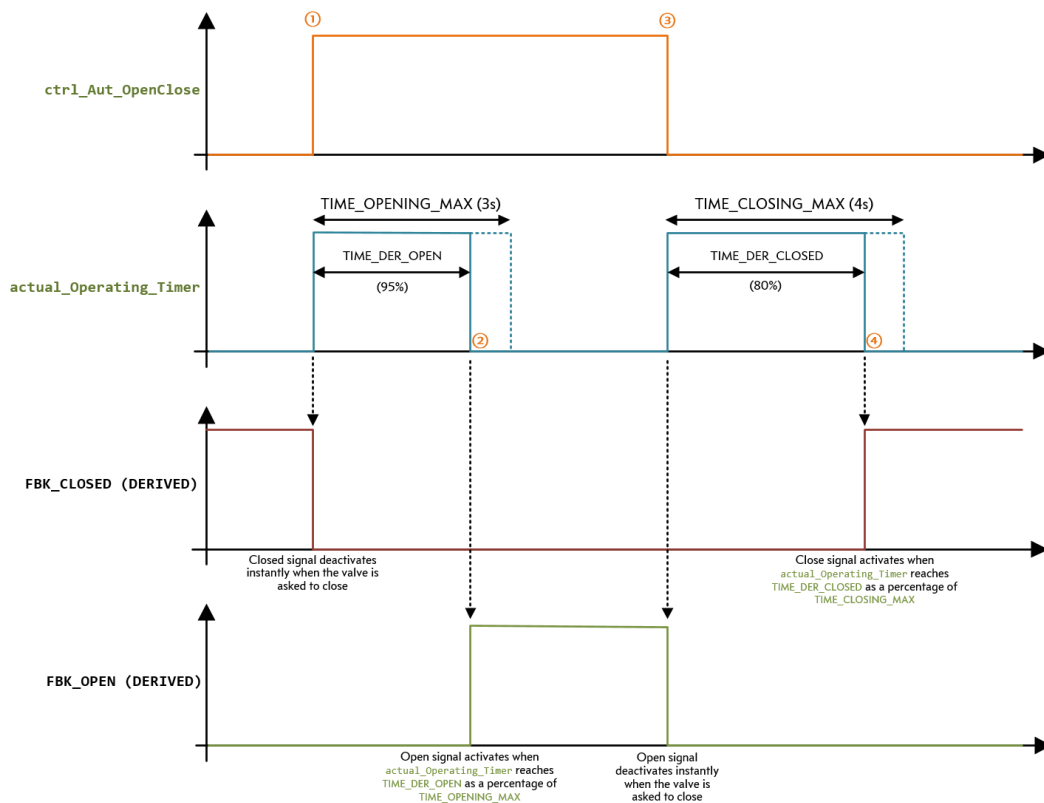

Figure 2.2 Deriving open and closed signal when positive feedback is not used
- (9) Where either the **CONFIG_FBK_OPEN_EN** or **CONFIG_FBK_CLOSED_EN** signal is deactivated (set to 0), the associated position feedback is internally determined by the module according to the actual state of the valve (determined by the **OPERATE** parameter and the type of valve in use).
- (10) These internally derived signals are themselves configurable and can be set such that the position feedback signal occurs after a particular percentage of the associated operation timer has expired.
- (11) For the derived **FBK_OPEN** signal, the configurable percentage signal is **TIME_DER_OPEN** stored within the **STATIC_DATA** parameter. Similarly, for the derived **FBK_CLOSED** signal, the configurable percentage signal is **TIME_DER_CLOSED**, again, stored within the **STATIC_DATA** parameter.
- (12) The operation of these parameters can be seen in Figure 2.2:
- (13) Figure 2.2 assumes a normally closed valve with no position feedback signals (both `CONFIG_FBK_OPEN_EN` and `CONFIG_FBK_CLOSED_EN` are set to 0) operating in automatic mode. It also assumes that the valve is free to operate without restriction (there are no active interlock or safety signals).
- (14) The valve is initially closed with the derived `FBK_CLOSED` signal active (1) and the derived `FBK_OPEN` signal deactivated (0). At some point ①, the module receives a request to open the valve.
- (15) At this point two things happen, firstly the operation timer starts, with a countdown from the value `TIME_OPENING_MAX`, which in this case is 3 seconds. Secondly, the derived `FBK_CLOSED` signal is deenergised (indicating the valve is no longer closed).
(16) The simulated opening time (**TIME_DER_OPEN**) is set to 95%, this means that the derived **FBK_OPEN** signal will activate when the **actual_Operating_Timer** value has counted down for 95% of the **TIME_OPENING_MAX** value (i.e. when the timer has counted down to 0.15s or less).
(17) The exact formula used is: